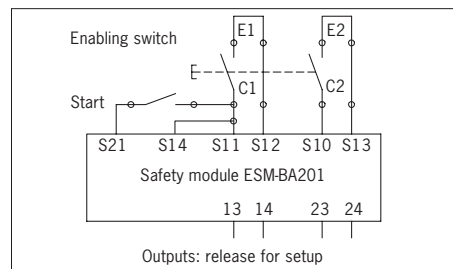

Fig. 2: Application example
- ⚠ In safety circuits, both contacts on the enabling switch must be evaluated separately (2-channel) (Figure 2).